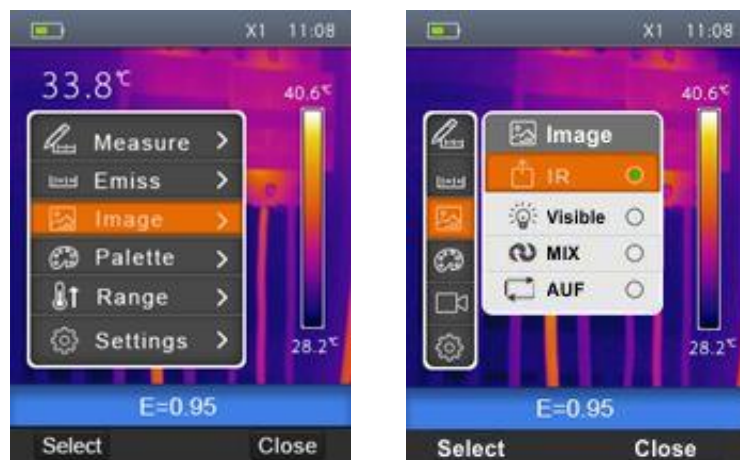

Fig. 22: Selecting the image display mode
1. Select the item “Image” using the keys $\oplus$ or $\ominus$ and press the key . The screen Fig. 22 – Right side is shown on the display
In Fig.22 the instrument shows the IR visualization with "Iron" palette (see § 5.2.5) in the points of the image with temperatures between 22.0°C and 37.0°C and visible image in the points outside of this range